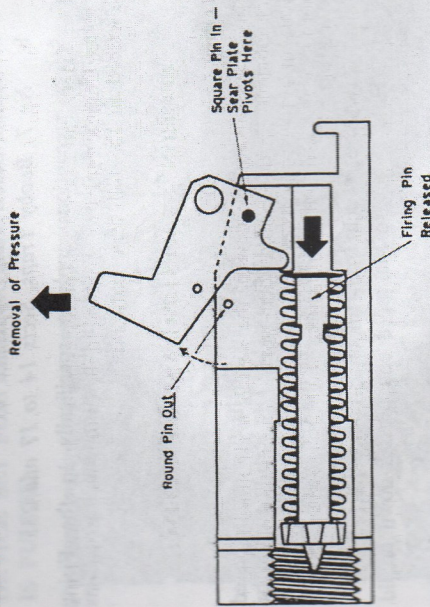

Figure 4
11. When the ROUND head pin is removed, the sear plate is free to pivot on the SQUARE head pin. Unless the sear platform is held down by a weight of more than 2 lb, the compressed spring will push the firing pin forward, lifting the sear and automatically releasing the firing pin. The ROUND head pin is always removed when the device is set for RELEASE or TENSION RELEASE (See Figure 4).